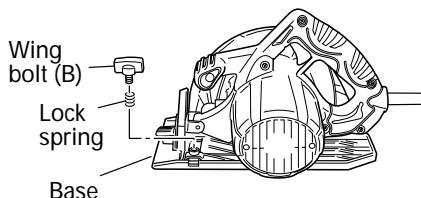

Fig. 6
3. Regulating the guide (Rip fence) (Fig. 6, 7) Optional Accessory